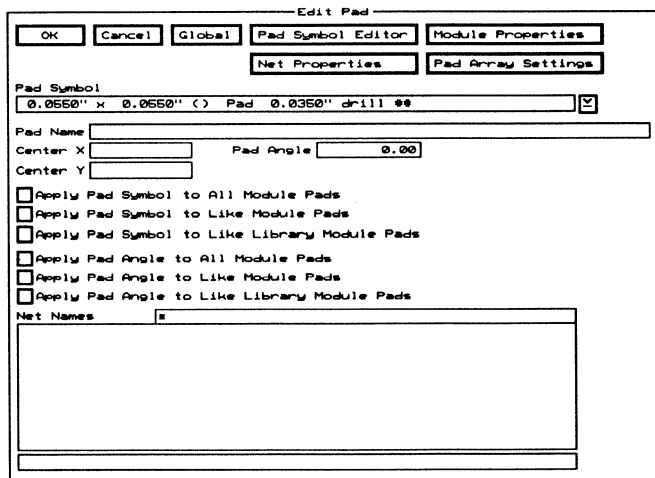

Figure 5-29. The *Edit Pad* dialog box.
2. Select **Set**. The **Edit Pad** dialog box displays (figure 5-29).